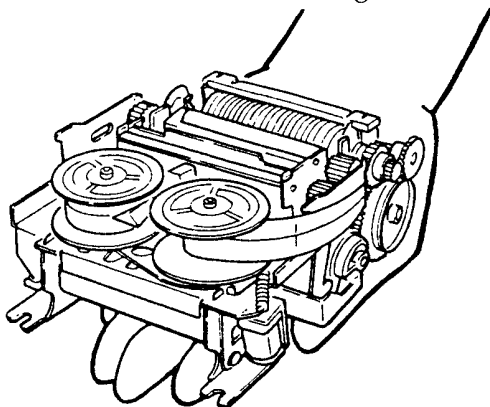

Fig. 3-2. Proper Carrying Method
(1) When transported as a single unit, the Printer should be carried as shown in Fig. 3-2.